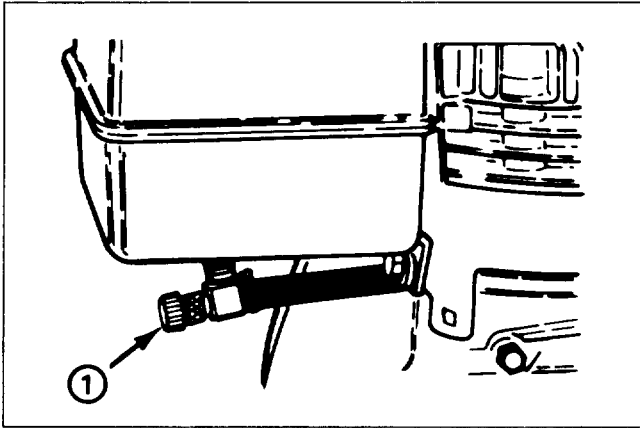

Figure 14
**Fuel Shut-Off Valve** (Fig. 14)—Valve is located under fuel tank. Close valve to stop fuel flow from fuel tank and open valve to allow fuel to flow to the carburetor. Close valve when snowthrower is not used.